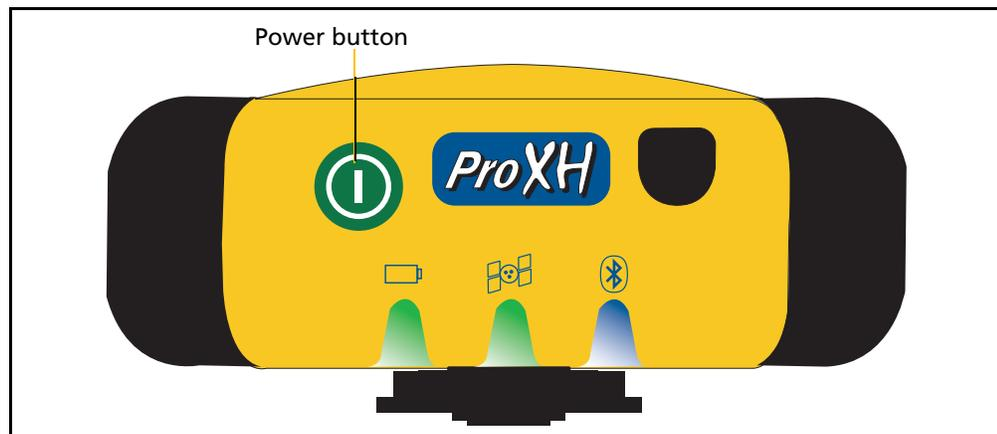

Figure 1.7 Front panel - Power button
- Press the Power button briefly, see Figure 1.7. If you use Bluetooth wireless technology to connect to the receiver, you must use this method.